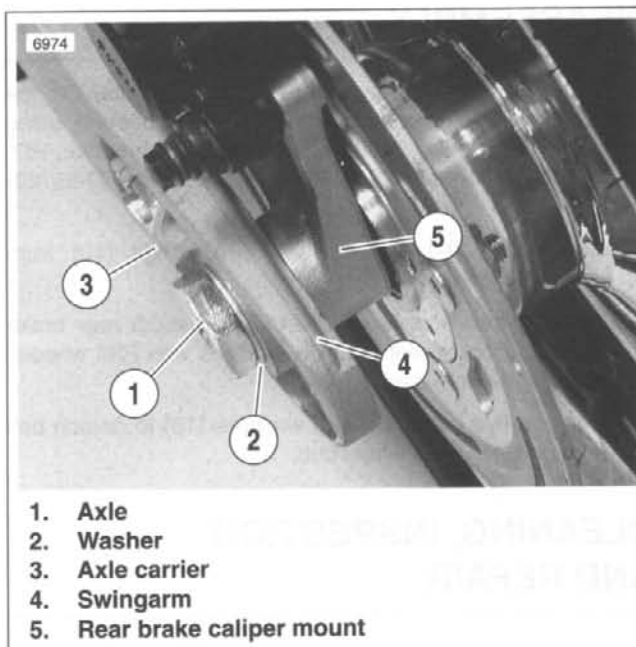

Figure 2-16. Axle, Left Side
- b. See Figure 2-16. Insert axle (1) through washer (2) so that rounded side of washer will face swingarm. Continue through axle carrier (3), left side of swingarm (4), rear brake caliper mount (5) and wheel assembly.